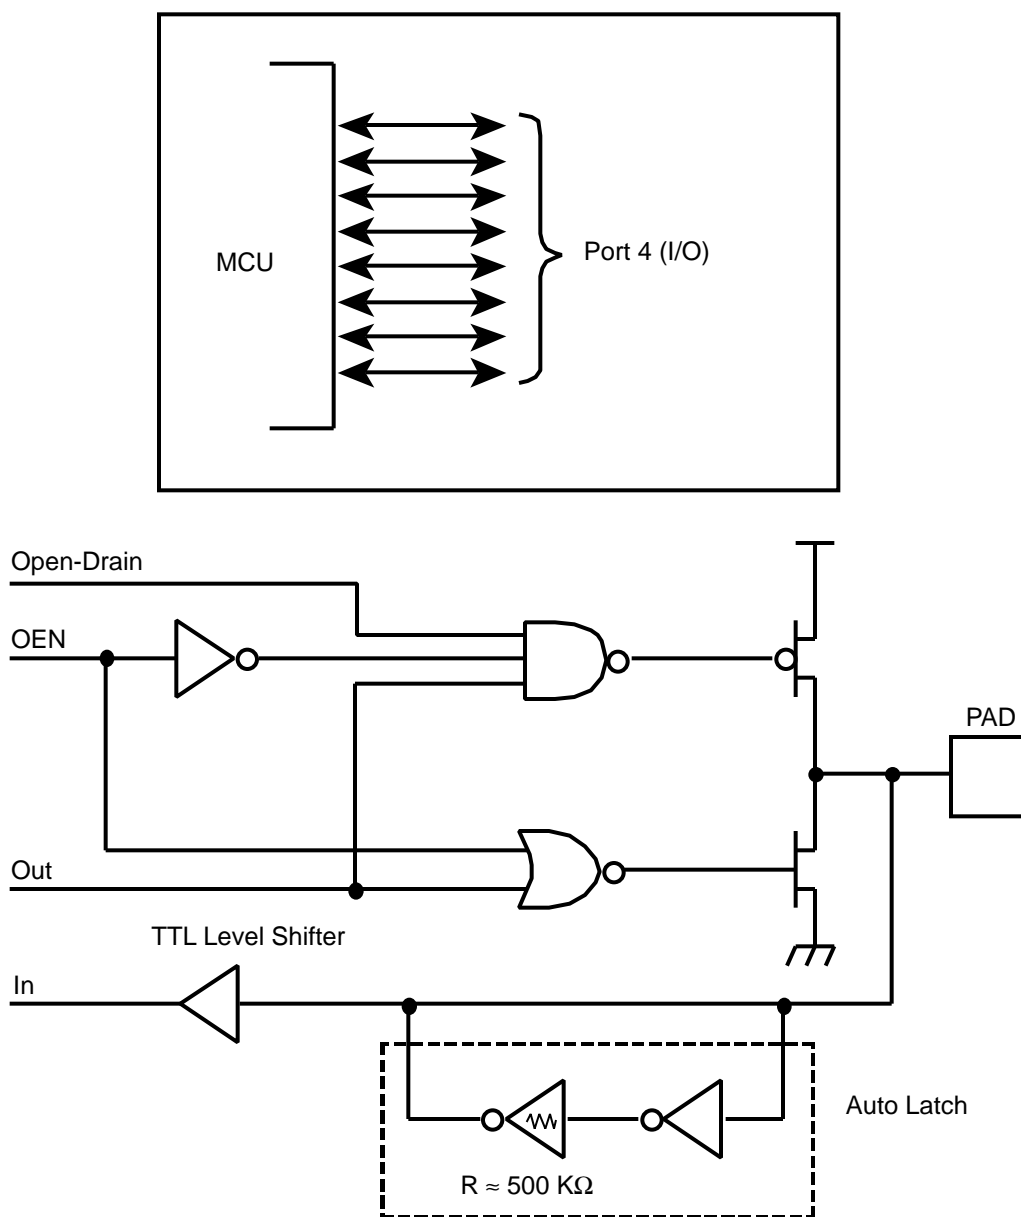

Figure 18. Port 4 Configuration
**Port 4** (P47-P40). Port 4 is an 8-bit, bit programmable, bi-directional, CMOS-compatible port. Each of these eight I/O lines can be independently programmed as an input or output or globally as an open-drain output. Port 4 is always available for I/O operation (Figure 18). Port address (F)02.
**Port 5** (P57-P50). Same as Port 4. Port address (F)04.
**Port 6** (P63-P60). Same as Port 4. (Note: this is a 4-bit port, bits D3-D0.) Port address (F)07.